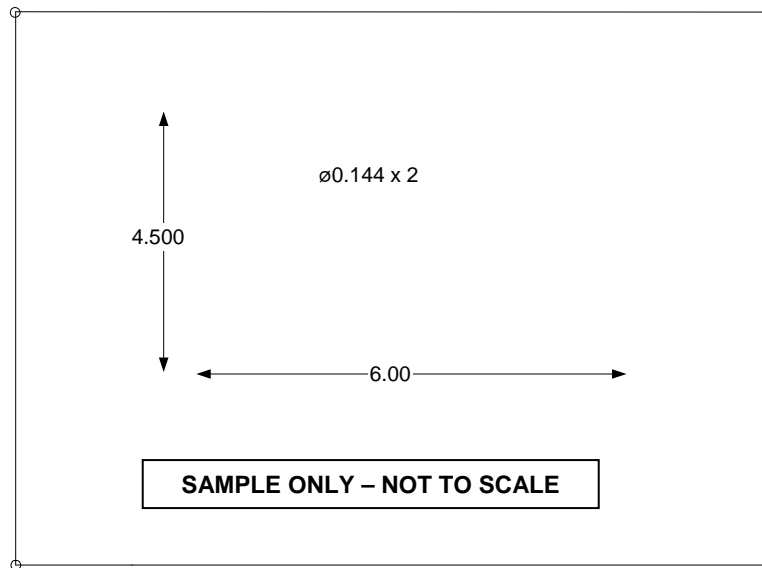

Figure 32: Drill Hole Dimensions for L-Bracket
- Mark the two 0.144" diameter drill holes. See Figure 32 for drill locations and dimensions.